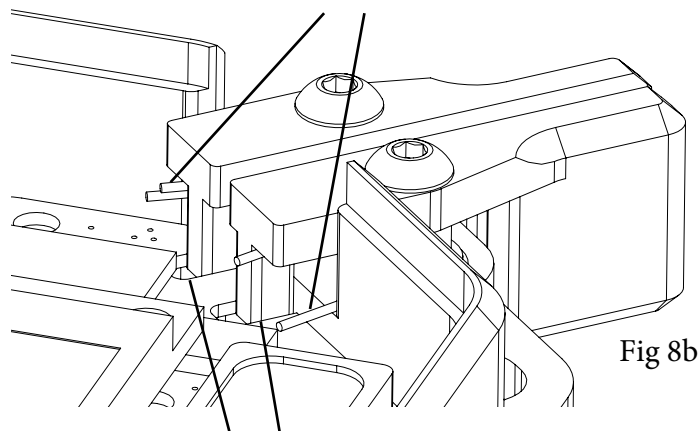

Fig 8b.
8. *Install the **Right Paddle Assembly**:* Pick up the **Right Paddle Assembly** in one hand, pinching the **Spring** against the small rectangular stub (Fig 8a.) on the **Paddle**. Holding the PSDR in the other hand (probably easier if it's vertical) insert the **Right Paddle Assembly** into its hole on the **Housing**, ensuring that the **Spring** is captured in the slot of the **Housing**, and that the **Paddle** stub fits into the slot on the **Main Board**. (Fig 8b.)